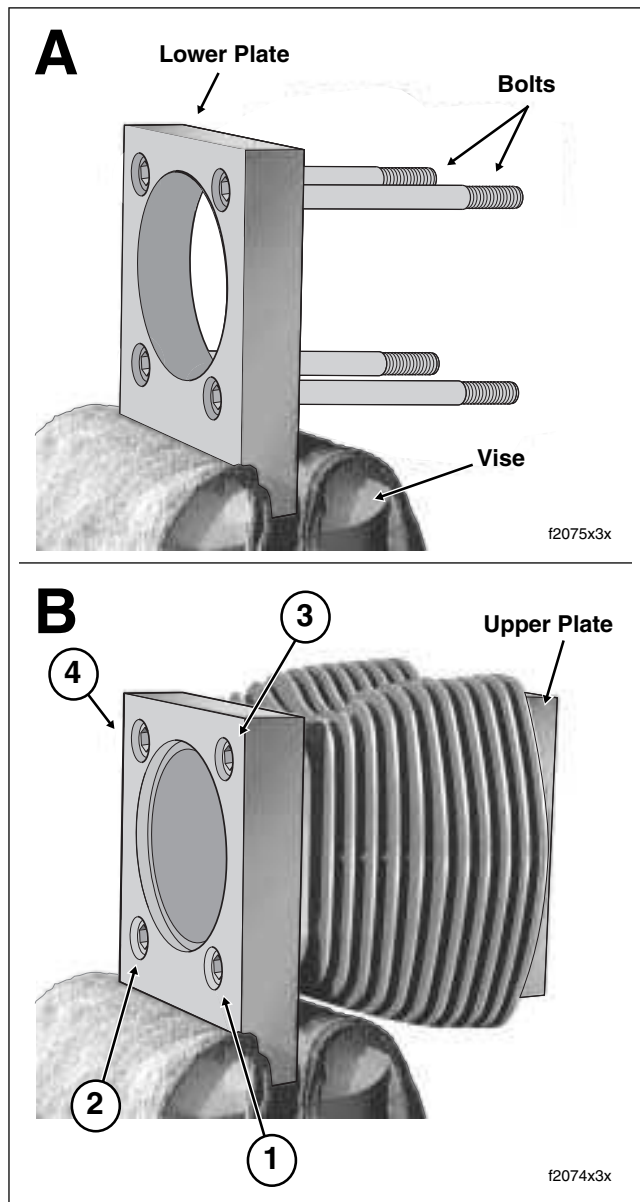

Figure 3-84. Install Cylinder to Torque Plates
- d. Lightly oil threads and shoulders of four bolts with clean H-D 20W50 engine oil. Slide bolts all the way through holes of lower plate. See A of Figure 3-84.
- g. Tighten the bolts to 120-144 **in-lbs** (13.6-16.3 Nm) in the sequence shown in B of Figure 3-84.
- i. Using a grease pencil, mark a straight line on one of the bolts continuing the line over onto the lower plate. Repeat step for remaining three bolts. Using the marks as a guide, turn each bolt 1/4 turn or 90 degrees. Be sure to tighten the bolts in the sequence shown in B of Figure 3-84.